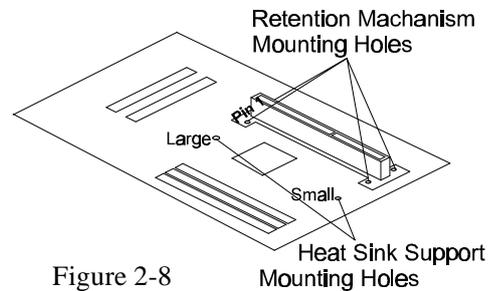

Figure 2-8
1. Finds out the Retention Mechanism (RM) Mounting Holes and "Pin 1" mark of Slot 1 on HOT-679 main board. (Refer to Figure 2-8)